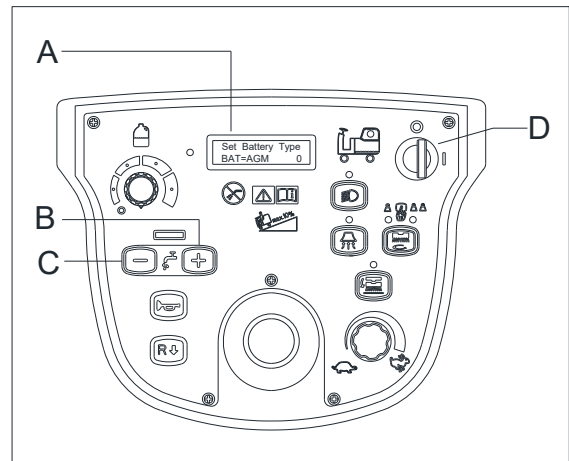

Figure 4
2. Press flow adjusting buttons “+” and “-“ (B, C Figure4).
Turn the ignition key (D, Figure4) to “I” tap position.
3. Release flow adjusting buttons. “Set Battery Type BAT=AGM 0” will be showed on LCD screen (as Figure 4 A).
4. Then, you can setting the battery type through pressing button “+” and “-“ (B, C Figure4).